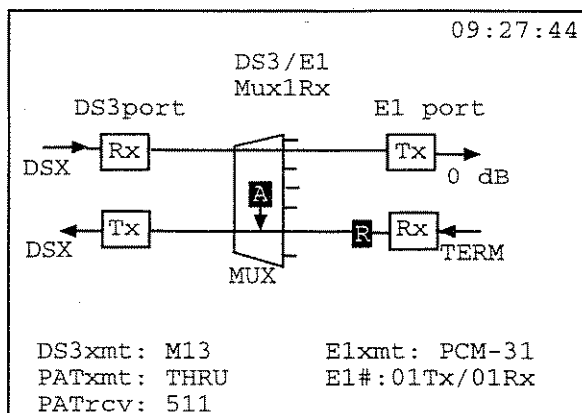

Figure 2.4.D DS3/E1 Mux1Rx graphic
- THRU will cause the selected channel to pass through the test set undisturbed. This is the default selection for both multiplex modes. See Figure 2.4.D for a sample graphic screen.